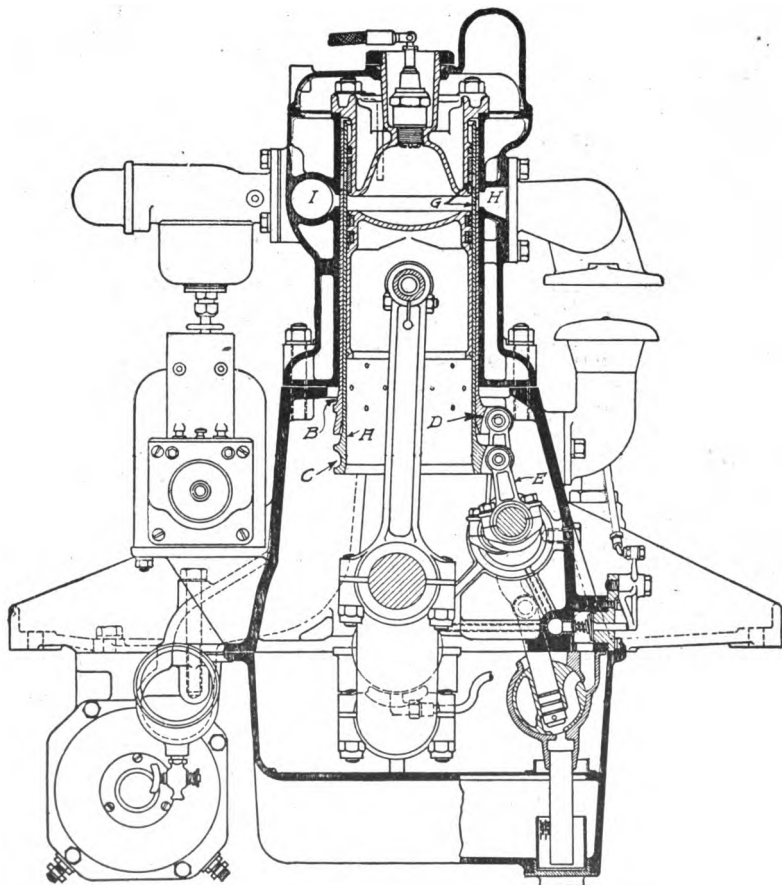

Fig. 190. Willys-Knight Engine in Which Eccentrics and Sliding Sleeves Replace Cams and Valves
**Knight Sleeve Valves.** In the last few years, tremendous progress has been made here and abroad with the Knight motor, named after its Chicago inventor. In many important factories this valve has displaced the poppet valve. In a regular four-cylinder four-cycle engine, the valves consist of a pair of concentric sleeves, the openings in the two sleeves performing the requisite functions of valves in the proper order. These sleeves, as Fig. 190 shows, are